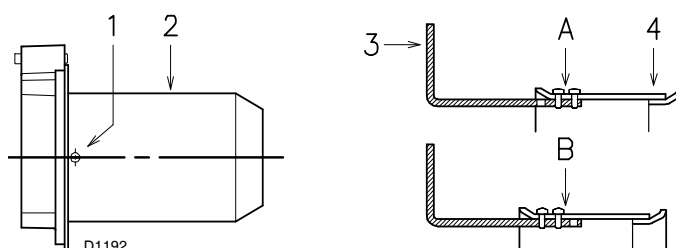

Fig. 10
- unscrew the screws 1)(Fig. 10) and disassemble the blast tube 2).